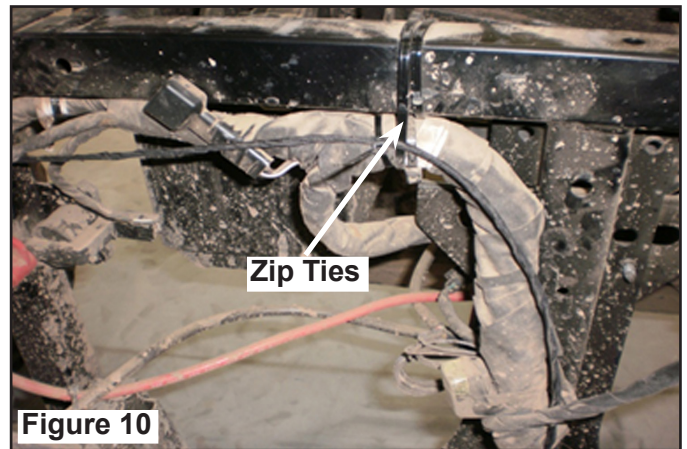

Figure 10
11. Make sure the jumper harness wire follows existing harness routing and tie adjacent to existing ties on the harness. Figure 10.